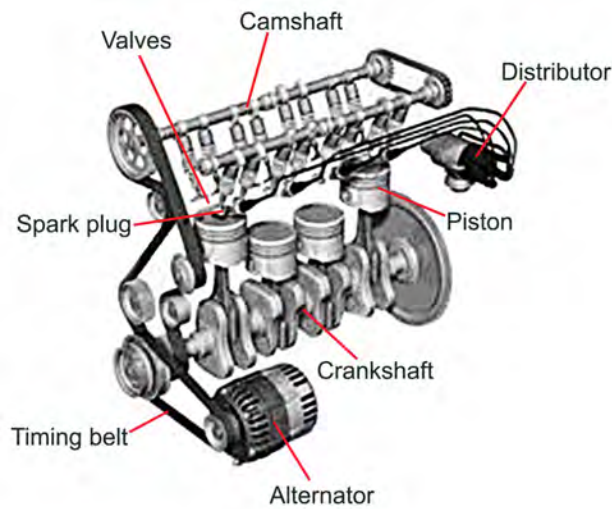

Fig. 3.3: Engine
An engine (Fig. 3.3) is complex unit in which different components are assembled together, and fuel is burned to produce power or energy. The engine converts chemical energy (heat energy) into mechanical energy, which is then utilised for vehicular movement. There are different processes of fuel combustion. When the fuel is burned within the engine, it is called an Internal Combustion (IC) engine, and when it is burned externally and the produced steam is used for the mechanical movement, it is called an External Combustion (EC) engine. Nowadays, automobile engines are quite economical due to the developments taking place in the field of internal combustion engine.